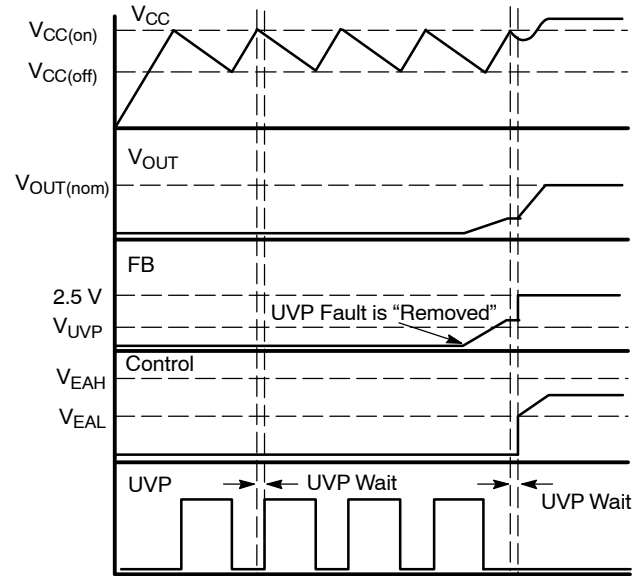

Figure 36. The NCP1606's Startup Sequence with and without a UVP Fault
Furthermore, the NCP1606 incorporates a novel startup sequence which ensures that undervoltage conditions are always detected at startup. It accomplishes this by waiting approximately 180 μs after V_{CC} reaches $V_{CC(on)}$ before enabling the error amplifier (Figure 36). During this wait time, it looks to see if the feedback (FB) voltage is greater than the UVP threshold. If not, then the controller enters a UVP fault and leaves the error amplifier disabled. However, if the FB pin voltage increases and exceeds the UVP level, then the controller will start the application up normally.